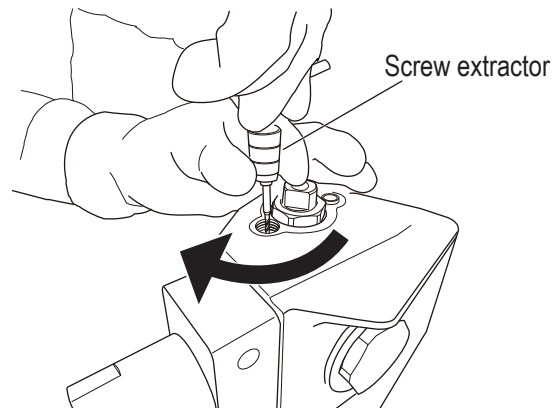

Fig. 5
- e. Insert the screw extractor into the deepest of stopper pin. (Fig.5)